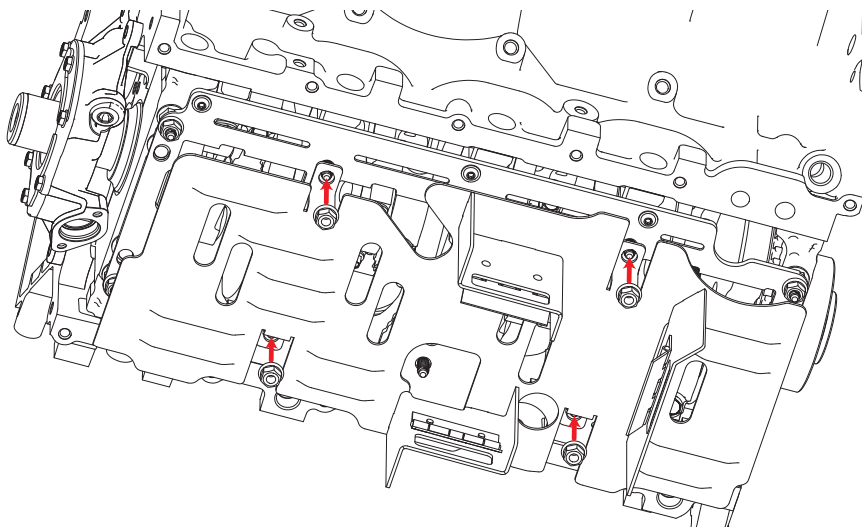

Figure 7 - Installing Oil Pan Baffle onto Main Studs
12. Temporarily install the oil pan baffle onto the engine main cap studs and secure using four lock-nuts, as shown in Figure 7 on the next page.
16. Install the oil pan baffle onto the engine main cap studs and secure using four lock-nuts, as shown in Figure 7. Torque to 18 lb-ft (24 N·m) for factory main studs or 28 lb-ft (38 N·m) for ARP main studs.